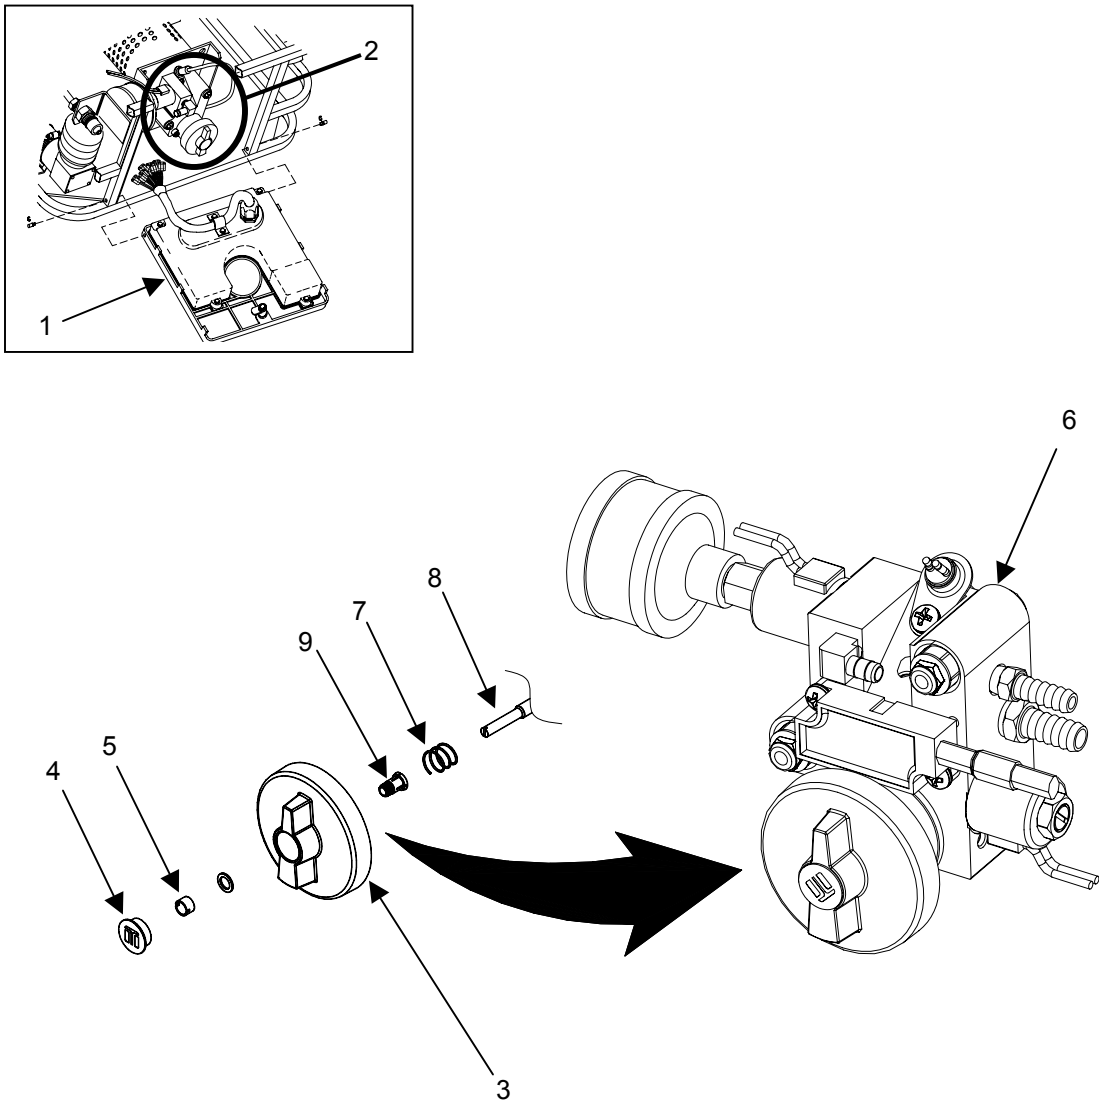

Figure 10. Replace the Control Knob Assembly
2. Open control panel (**figure 10, item 1**) to gain access to the fuel delivery block assembly (**figure 10, item 2**).
3. To replace the control knob assembly (**figure 10, item 3**), remove the cap (**figure 10, item 4**), and loosen the retainer nut (**figure 10, item 5**) ONLY enough to release the knob from the Fuel Delivery Block (**figure 10, item 6**). Do not disassemble the knob components.
4. Remove the control knob assembly (**figure 10, item 3**) taking care not to drop the spring (**figure 10, item 7**) located behind the knob.
5. Loosen the retainer nut (**figure 10, item 5**) on the new knob until it is just held in place. Make sure that the spring (**figure 10, item 7**) is in place.
6. Using a screwdriver or nutdriver placed in the slot of the retainer nut to hold it steady, position the new control knob assembly (**figure 10, item 3**) at a twelve o'clock position and press onto the needle valve shaft (**figure 10, item 8**).
7. Press the control knob until the collet (**figure 10, item 9**) on the back of the control knob is firmly engaged on the needle valve shaft (**figure 10, item 8**).
8. Secure the control knob assembly (**figure 10, item 3**) by tightening the retainer nut (**figure 10, item 5**).
9. Replace the cap (**figure 10, item 4**).
10. Close the control panel (**figure 10, item 1**).